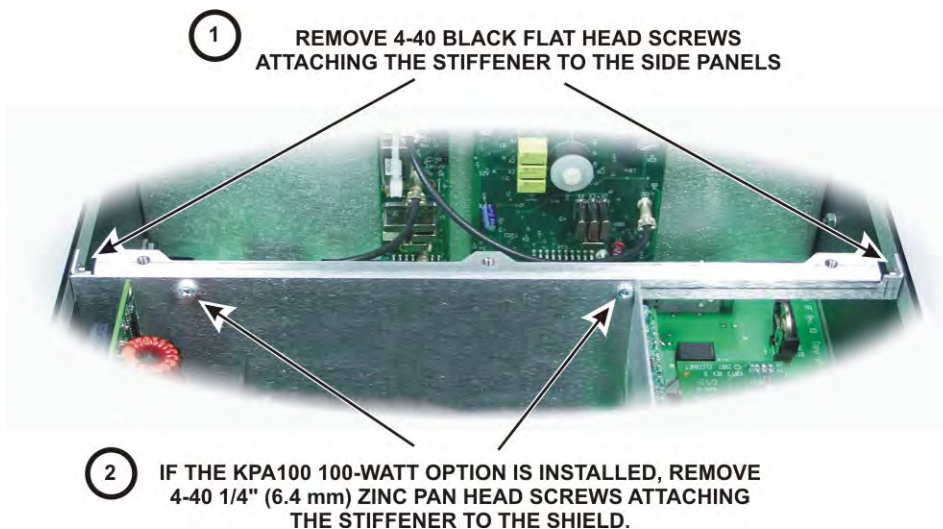

Figure 3. Removing the Chassis Stiffener Bar.
- Remove the chassis stiffener bar that runs across the top of the K3 (see Figure 3)